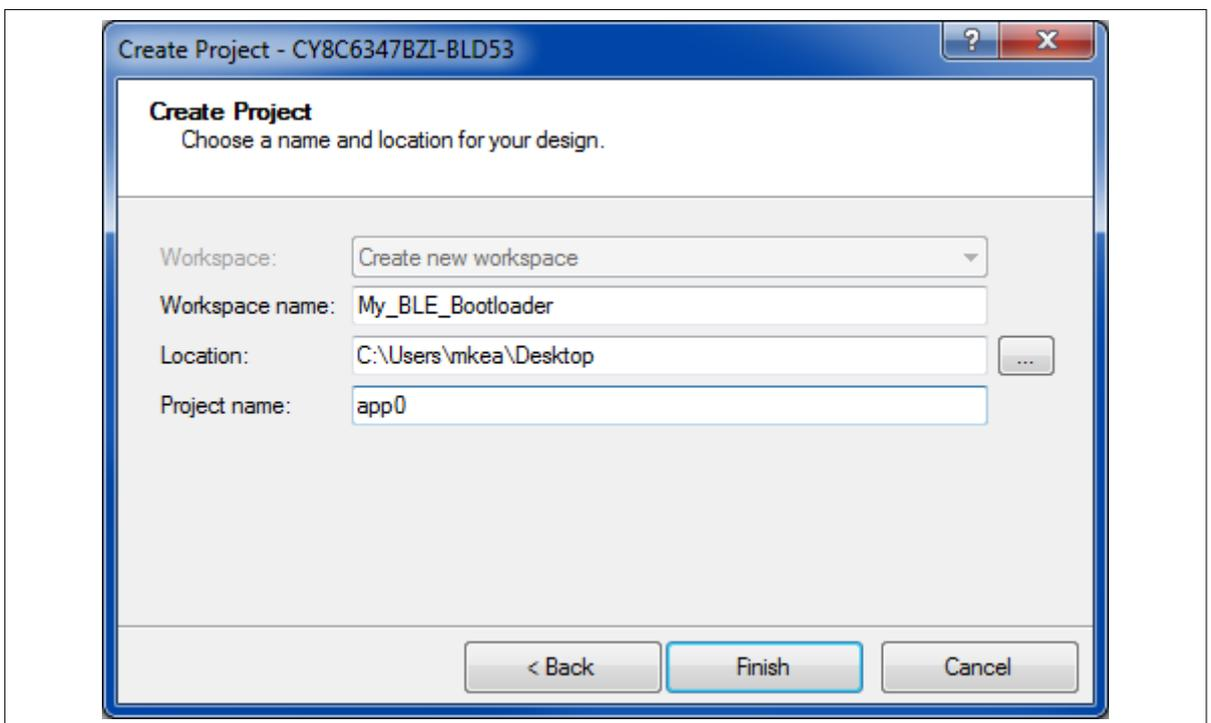

Figure 23 PSoC™ Creator create BLE bootloader App0
1. Create App0 and the workspace, as Figure 23 shows
- Create App0 and the workspace, as Figure 23 shows